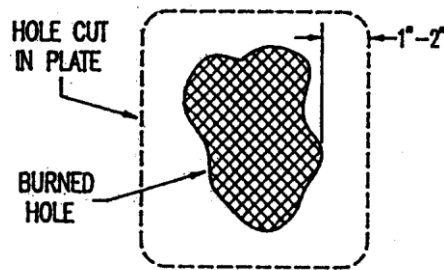

Figure 1
1. Use arc gouge or cutting torch to remove damaged plate material. A minimum of 1" of plate material all around the hole should be removed (Fig. 1). Corners of the cut out area should be rounded. Inspect the cutout to be sure *original thickness* in the hot plate exists.